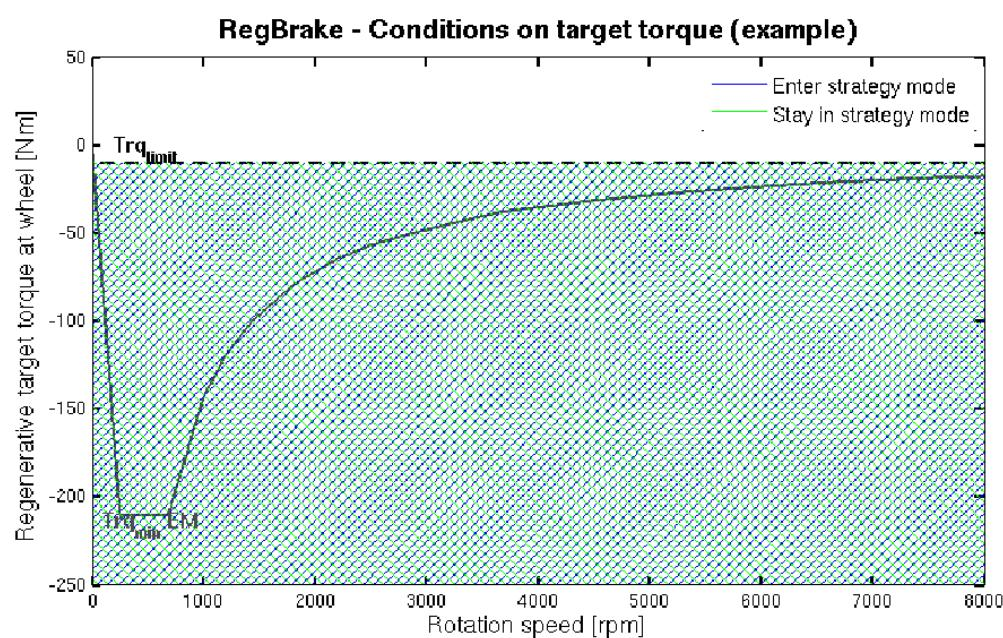
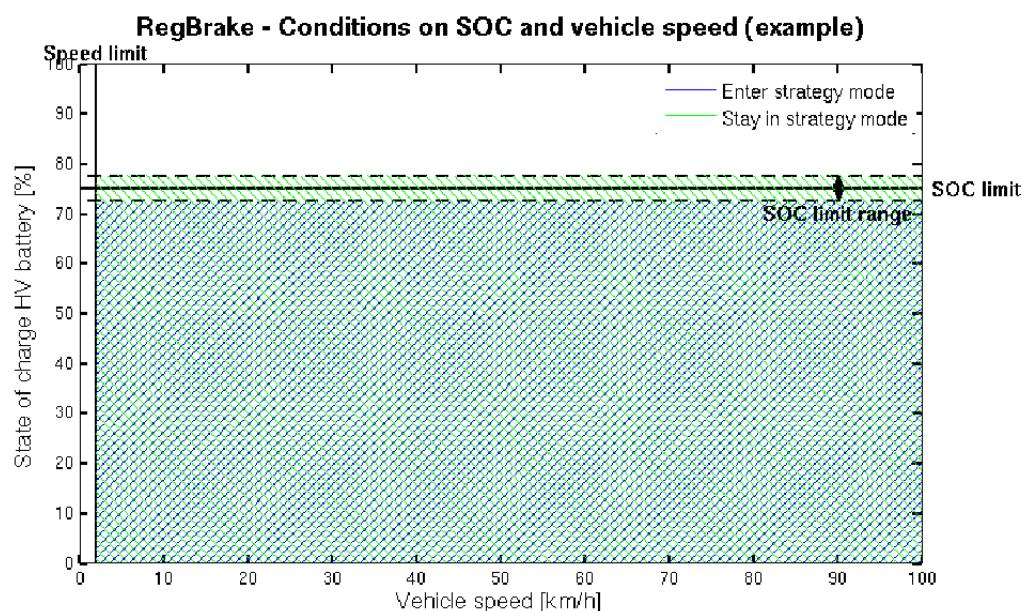

Figure 5.27: Powertrain - Conditions on target torque
Figure 5.28: Powertrain - Conditions on SOC and vehicle speed
- Regeneration** This tab provides the two most common operation strategy models for electric vehicles: Regenerative braking and regenerative drag. For both strategy modes, the limits for entering or leaving the strategy mode must be defined. The meaning of these limits are shown in Figure 5.27 and Figure 5.28. The regenerative brake mode itself is defined in the brake model (section "Brake", pg. 87).